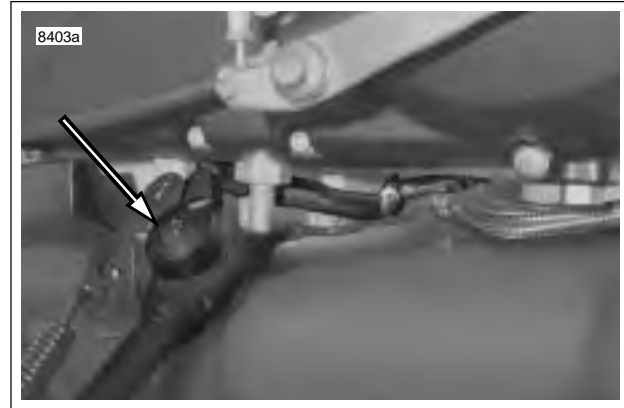

Figure 4-22. Sidestand Switch
- By retracting the sidestand and grounding the relay through the sidestand switch. See Figure 4-22.